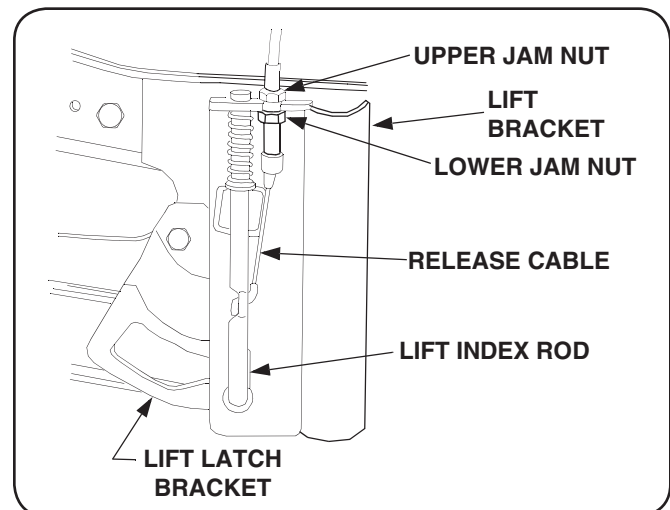

Figure 6-3
- If the index rod does not latch securely, loosen the upper jam nut and tighten the lower jam nut until the rod fully seats in the latch slot of the lift latch bracket. Refer to Figure 6-3.
- If the release cable has excess slack and it is difficult to disengage the rod from the latch slot, loosen the lower jam nut and tighten the upper jam nut until the excess slack is removed from the cable. Refer to Figure 6-3.